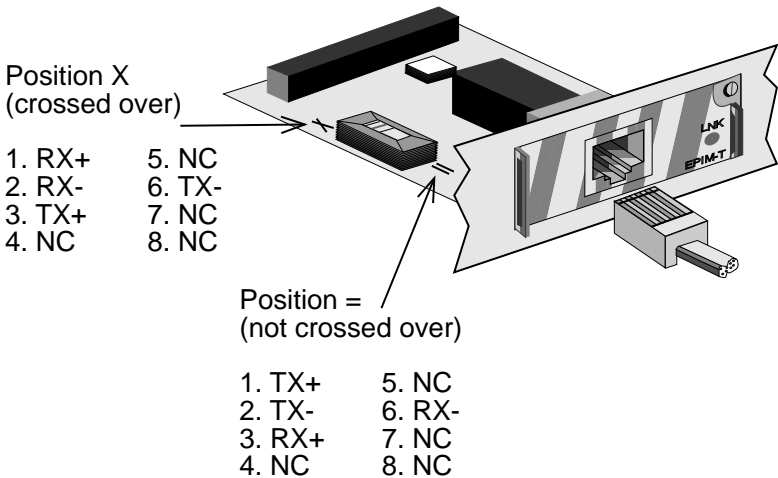

Figure 3-10. EPIM-T Cross-over Switch
Before connecting a segment to the EPIM-T, check each end of the segment to determine wire cross-over. If the wires do not cross over, use the switch on the EPIM-T to internally cross over the RJ45 port. Refer to Figure 3-10 to properly set the EPIM-T cross-over switch.
1. Connect the twisted pair segment to the module by inserting the RJ45 connector on the twisted pair segment into the RJ45 port on the module. (See Figure 3-10.)